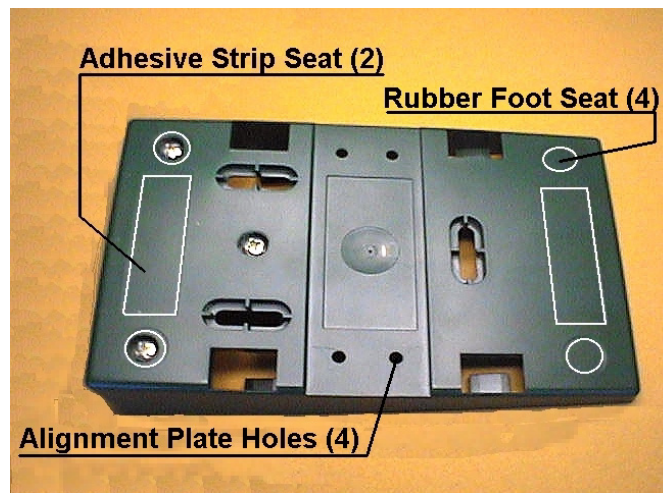
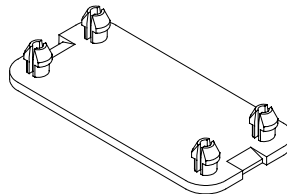

Figure 1 - OM-DRAGON™ Mounting Base bottom view
Figure 4 - Alignment Plate
1. Referring to Figure 1, carefully clean the rubber feet seat of the base to remove any impurities that could reduce adhesion.
For fixed desktop installation use the adhesive strips referring to Figure 1.
1. Referring to Figure 1 and Figure 4, snap the Alignment Plate into the holes provided on the base so that the plate remains extended from the side of the base.